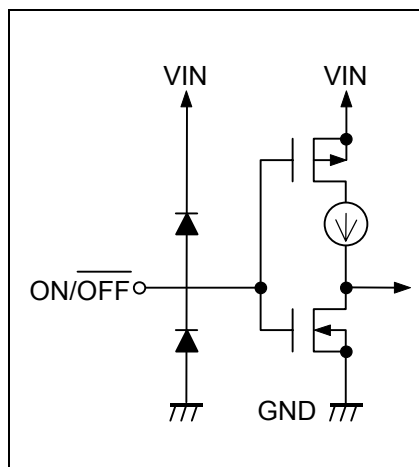

Figure 11
The structure of the ON/OFF pin is as shown in **Figure 11**. Since the ON/OFF pin is neither pulled down nor pulled up internally, do not use it in the floating state.
- The ON/OFF pin is configured as shown in **Figure 11** and is neither pulled up or down internally, so do not use this pin in a floating state. When not using the ON/OFF pin, connect it to the VIN pin.